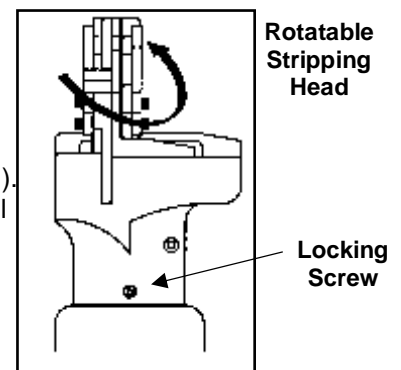

Figure 1
2. Hold the stripper in the hand which will be used for operation of the tool and position the control lever where it feels most comfortable for operation. With the locking screw loosened, rotate the stripping head until it is positioned in a proper location for easy viewing and placement of the wire to be stripped. Tighten the locking screw (see Figure 1).